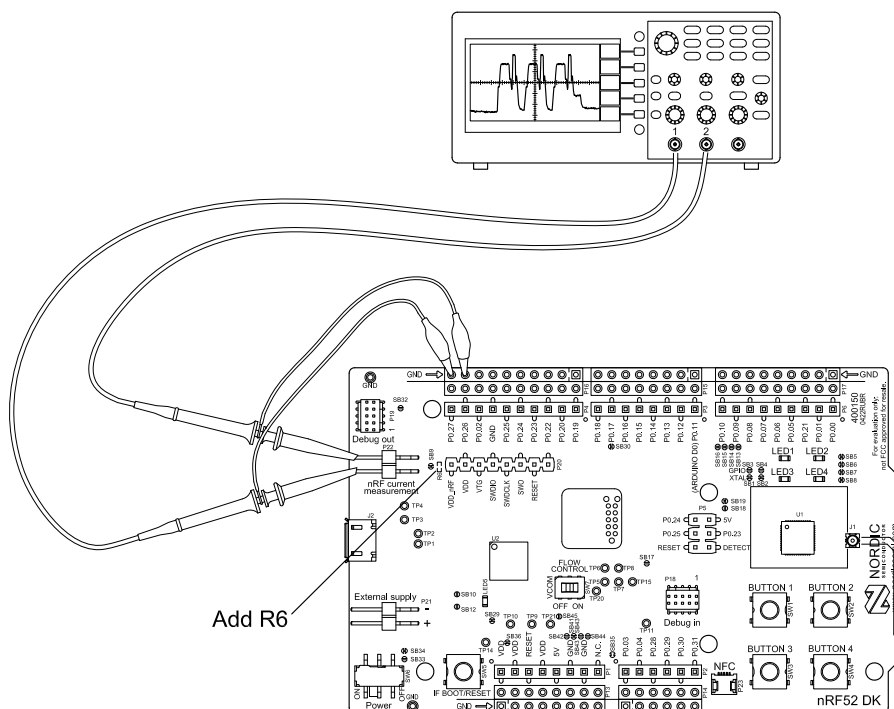

Figure 27: Current measurement with an oscilloscope
4. Connect the oscilloscope using two probes on the pins of the **P22** connector as shown in Figure 27: Current measurement with an oscilloscope on page 32.